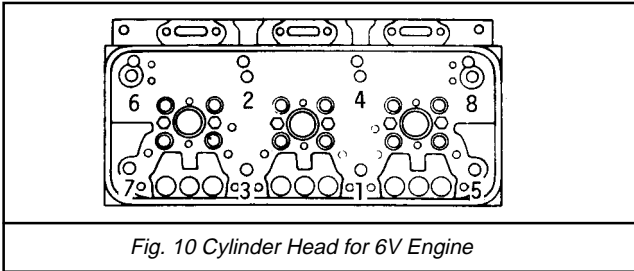

Fig. 10 Cylinder Head for 6V Engine
- (2) To install the cylinder head on the engine without disturbing the gaskets and seals, install guide studs J 24748 in two outboard corner bolt holes in the cylinder block. Do not install guide studs in the bolt holes which line up with the pilot sleeves in the head.
- (3) Attach lifting tool J22062-01 to the cylinder head and lift the head into position above the cylinder block.
- (4) Make a final visual check of the compression gaskets, seals and shims to ensure that they are in place before the cylinder head is lowered. This is a very important check. Gaskets and seals which are not seated properly will cause leaks and "blow-by" and result in poor engine performance and damage to the engine. Shim strips not in place can result in broken cylinder head bolts.
- (5) Wipe the bottom of the cylinder head clean. Then lower the head until it is about 1/2" from the surface of the cylinder block.
- (6) Apply a small amount of International Compound No. 2, or equivalent, to the threads and underside of the head of all cylinder head attaching bolts. Then install a bolt and washer through each piloting sleeve at the inboard corners of the head and thread them finger tight into the cylinder block. Continue to tighten these bolts (finger tight) as the head is lowered into position on the cylinder block. Note: Cylinder head bolts are especially designed for this purpose and must not be replaced by ordinary bolts.
- (7) After the head is in place, remove the guide studs and the lifting fixture and install the remaining bolts and washers, running the bolts down snug (15-20 ft/lb. or 20-27 N-m torque) with a speed handle.
- (8) Tighten the 11/16"-II bolts to 250-260 ft/lb. (339-352 N.m) torque, in increments of 50 ft/lb (68 N.m) torque, in the sequence shown in Fig. 10. Repeat the tightening sequence at least once, because the first bolts tightened in the sequence tend to lose significant clamp load during tightening of the remaining bolts. Apply a steady pressure for two or three seconds at the prescribed torque to allow the bolts to turn while the gaskets yield to their final designed thickness. Begin on the cam follower side of the head to take up tension in the push rod springs. Tighten the bolts to the high side of the torque specification but do not exceed the limit or the bolts may stretch beyond their elastic limits. Attempting to tighten the bolts in one step may result in trouble and consequent loss of time in diagnosis and correction of difficulties, such as compression leaks, when the engine is put into operation.